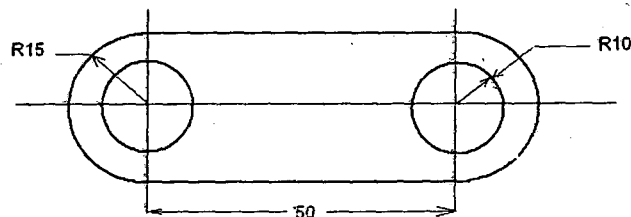

Fig.11
11. Design and give two views of a progressive die to be designed for producing the component shown in Fig.11. The sheet metal is of 2 mm thickness and made of Cold Rolled Steel of Shear strength 500 N/mm²
- i) Determine the press tonnage and the various stations required (3)
- ii) How is center of pressure to be determined for this die layout? (2)
- iii) Design all the parts of the die. (5)
- iv) Draw two fully dimensioned views of the die in engaged position. (8)
- v) Give a neat parts list. (2)